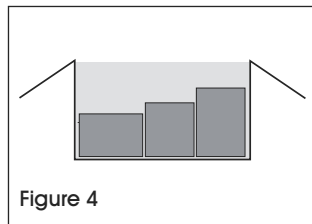

Figure 4
1. Group the contents in the box. (See Figure 4)
**NOTE:** Create the largest continuous void for the inflated bag. (See Figure 4)